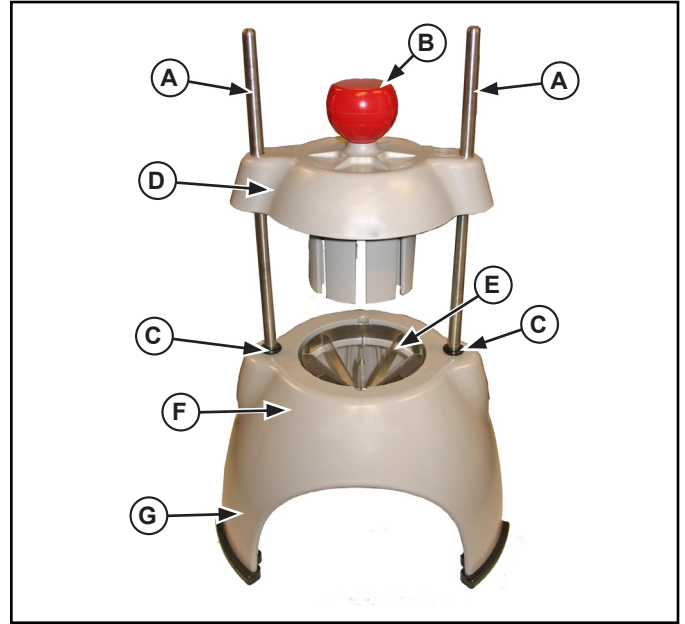

Figure 1. Features and Controls.
3. Before each use, check for proper blade alignment. Slowly set the pusher head (D) onto the blade assembly (E). See Figure 1. They should slide together with no obstructions. If there are obstructions, verify they are a matching set. Remove the obstruction.
6. Lift the handle (B) and place the food on the blade assembly (H) (center spike for wedge blades).
7. Remove hand from the blade assembly (H) area and place that hand on one of the legs (F).
1. Slide the pusher head assembly (D) off the rod guides (A). Figure 1.
2. Remove the screws securing the blade assembly (E).
3. The blade assembly (E) is best cleaned by forcing water under pressure through the blades from the unsharpened side. If necessary, use a nylon bristle cleaning brush to push food particles out from the unsharpened side of the blade assembly (E).
7. Install the blade assembly (E) so the tabs on the blade assembly slide into the grooves of the base assembly (F).
2. Remove the pusher head assembly (D) by sliding it off the rod guides (A). Figure 1.
3. Remove the screws securing the old blade assembly (E) and discard blade assembly and retain the screws.
4. Install the new blade assembly (E) so the tabs on the blade assembly slide into the grooves of the base assembly (F).